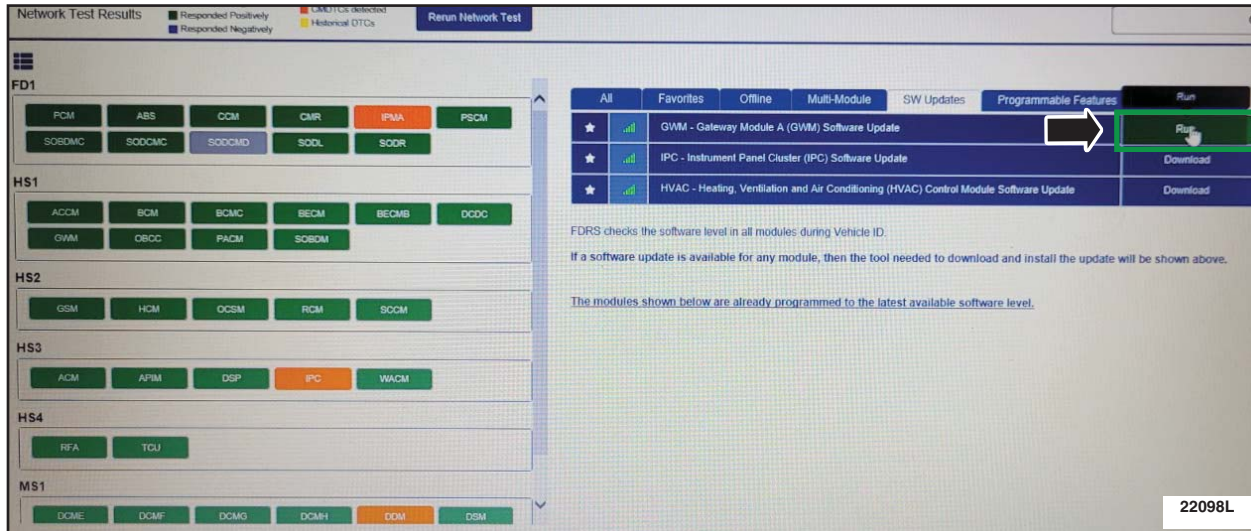

FIGURE 6
9. Click **RUN** to start the GWM update. See Figure 6.